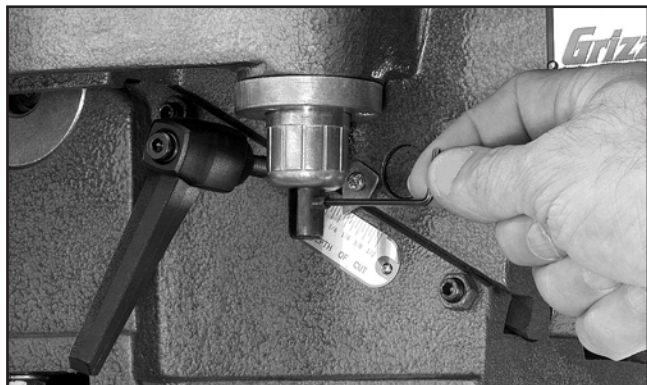

Figure 14. Example of installing cutterhead guard set screw.
19. Using a 2.5mm hex wrench, thread the set screw through the hole in the forked end of the cutterhead guard shaft (**Figure 14**).